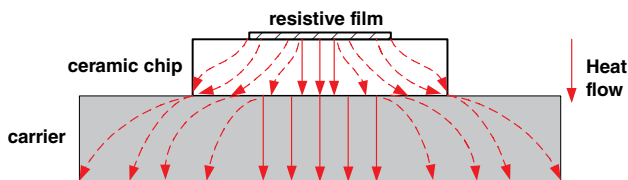
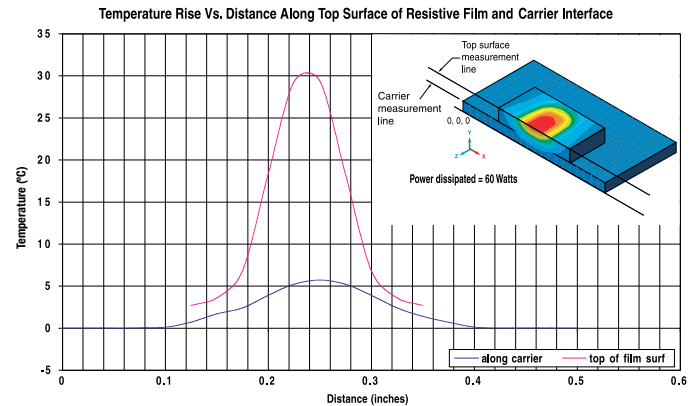
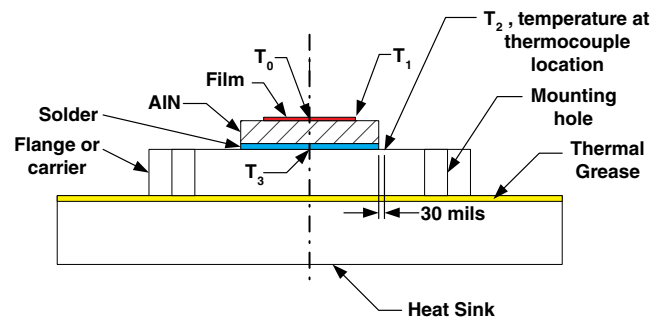

Figure 10: Heat flow around a mounted chip resistor
Figure 11: Computer simulation of isotherms around mounted chip resistor
Figure 12: Temperatures at a number of points on and around a ground plane-mounted resistive chip
Before we can do a thermal design, we must first decide on exactly what we shall mean by “power rating” for a chip device. **Figure 10** illustrates the heat flow around a mounted chip resistor. The resistive film, assumed to have constant power dissipation over its surface, behaves as an isoflux boundary, i.e., a source of uniform heat flux, rather than the isothermal boundary used in the derivation of equation (2). Were the film to completely cover the chip, the isoflux case would approach the isothermal case, but absent that condition the heat spreads out as shown.
The thermal resistance between two points is defined as the temperature difference between those points divided by the heat flow (typical units are degrees Centigrade/Watt). It is analogous to electrical resistance, with temperature corresponding to voltage and heat flux to current. **Figure 10** indicates that there is vertical as well as lateral heat flow in both the ceramic chip and the carrier it is mounted on. This implies that the system must be represented as a lattice network of thermal resistances rather than a single thermal resistance.
(The latter can characterize only the kind of one-dimensional heat flow assumed for equation (2).) **Stated alternately, the temperature will vary laterally along the film and, also, laterally along the mounting surface.** This is illustrated in **Figure 11**, which was made using a “Finite Element Method” (FEM) computer simulation. In actuality, a three-dimensional latticework of resistors is needed to describe a mounted resistive chip, and there is temperature variation along all three dimensions.
The above considerations bear importantly on how a chip is designed and characterized for power handling and exactly how confirming measurements are made. **Figure 12** indicates temperatures at a number of points on and around a mounted chip: (a) T_0 , at the film centroid; (b) T_1 , at the film edge or corner; (c) T_3 , on the mounting surface directly under the film centroid; and (d) T_2 , on the mounting surface 30 mils away from the chip edge. We can make the following qualitative observations:
An ideal heat sink has infinite thermal conductivity and, because of this, the infinite thermal conductivity, T_2 would equal T_3 in Fig. 12. From Fig. 10 and Fig. 11, this clearly is not the case for any real mounting surface; in fact, $T_3 > T_2$.
One strategy for defining power rating might be to measure T_3 directly – or deduce it from a measurement of T_2 and a computer FEM model – and then specify performance as if an ideal heat sink were held everywhere at that temperature. By slicing a mounted resistor in half along its longitudinal axis – in **Figure 12**, perpendicular to the plane of the paper, down the centerline – we were able to take advantage of the lateral heat-flow symmetry to measure T_2 and T_3 for chips of several sizes and input powers. (The slice plane is an adiabatic boundary, i.e., no heat flows across it.) Results of such measurements are presented in **Table 2**. All chips were 40 mils thick and all measurements were made on a silver-plated high-conductivity copper mounting surface (see the table for more information).
- Next, since our carrier does not have infinite thermal conductivity, we must specify the exact location – **T₂ in Figure 12 – at which we hold the ambient temperature constant. Typically, we choose this as 30 mils from the chip edge along its lateral centerline** – an arbitrary, convenient spot at which to solder a small thermocouple.
Let us assume a perfectly conducting mounting surface in **Figure 10**, i.e., a surface along which there can be no lateral temperature variation. Then to calculate the total thermal resistance from the film to the mounting surface, one would compute the one-dimensional resistance of the chip with the film occupying its entire surface and then add the constriction resistance to account for the lateral constriction of the heatflow. (Note, from the top down the heat spreads and so the term “spreading resistance” is frequently used, but from the bottom up the heat flow constricts.) There are several expressions available in the literature for the constriction resistance of heat sources mounted on rectangular channels (“flux tubes”) with adiabatic walls, i.e., heat-producing films on chips that have no appreciable heat conduction perpendicular to their sidewalls. One formula that yields constriction resistance based on an average film temperature is⁵.